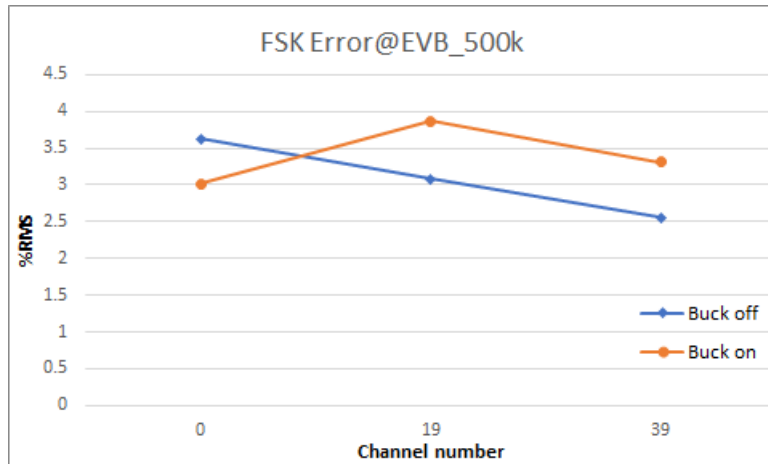

Fig 15. FSK error @ 500 kbit/s
- The FSK error with the GFSK data rate of 500 kbit/s is shown in Fig 15.